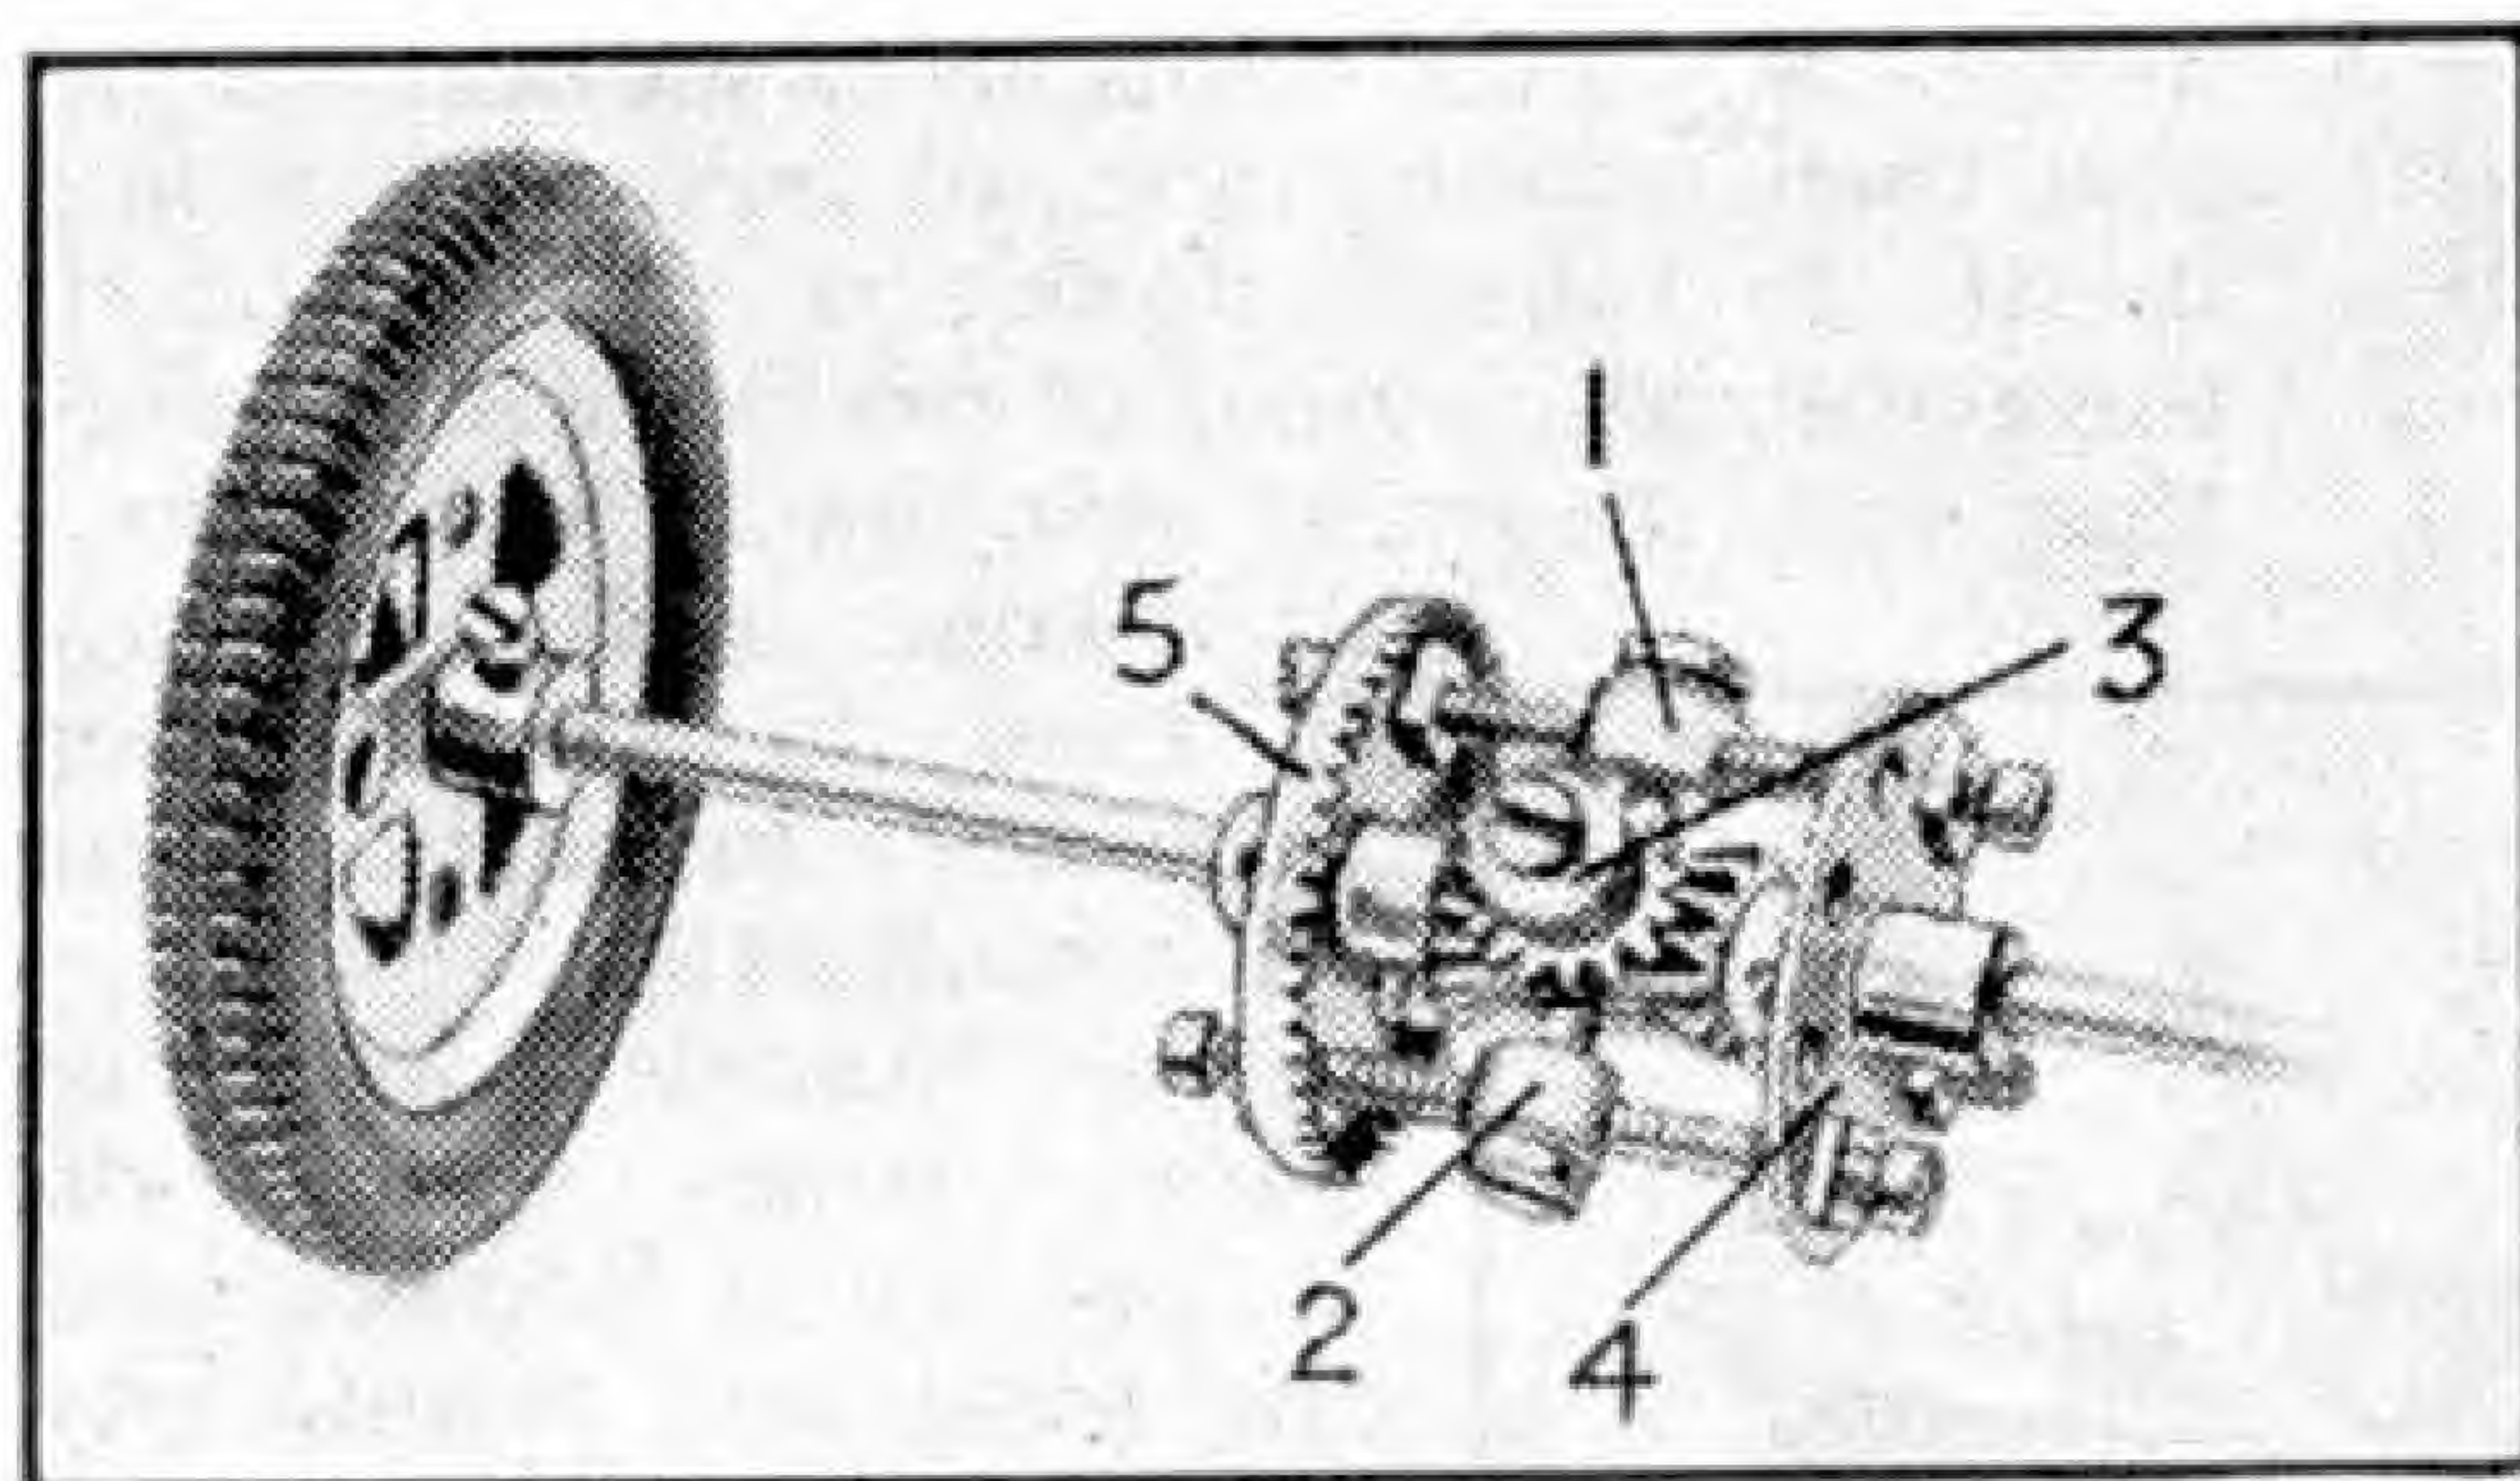

Fig. 1. A compact differential gear for small cars.
R. Smalley, Newcastle, has asked for advice on the construction of a compact differential gear suitable for incorporation in a very small car chassis he wishes to build, and I think the mechanism shown in Fig. 1 should meet his requirements. A "spider" taken from a Swivel Bearing is fitted with two Pivot